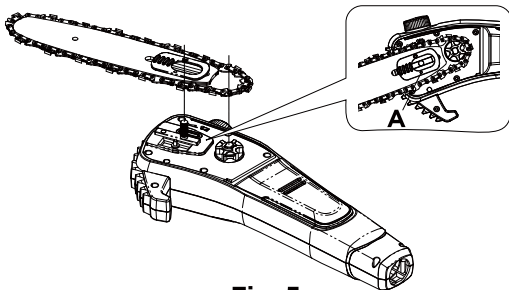

Fig. 5
3. Fit the chain onto the drive sprocket, and make sure the fastening bar bolt on the bar pad fits into the keyway of the opening on the guide bar, and the tension pin on the bar pad fits into the groove (A) on the guide bar. (Fig. 5, 6)